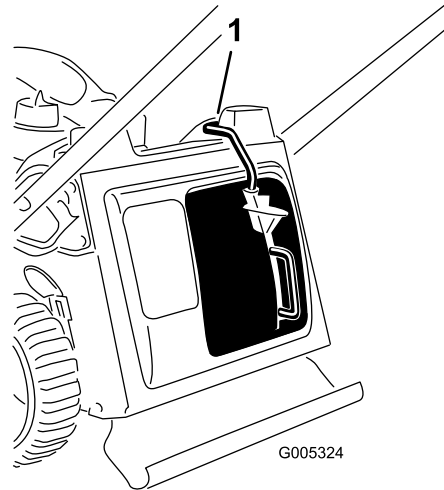

Figure 26
**Important:** The machine has a safety switch that prevents you from starting the machine unless you first install the mulch plug securely on the machine (Figure 26).
Install the mulch plug as illustrated in Figure 26.